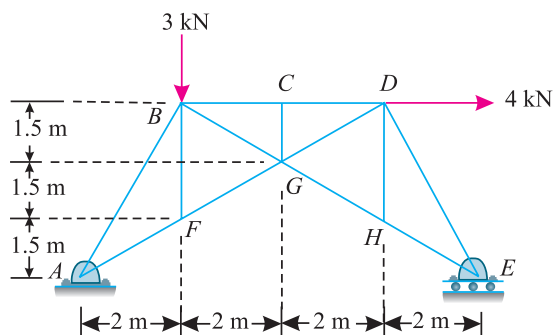

Fig. 13.45.
**Example 13.13.** Figure 13.45 shows a pin-jointed frame carrying a vertical load at B and a horizontal load at D